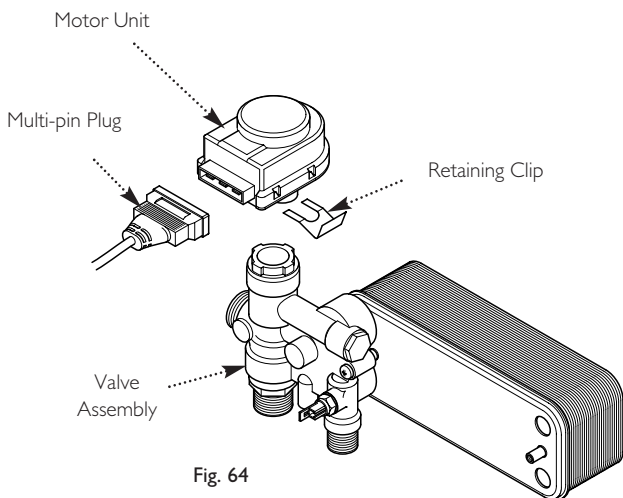

Fig. 64
12.20 Diverter Valve - Motor Unit & Assembly (Figs. 64 & 65)